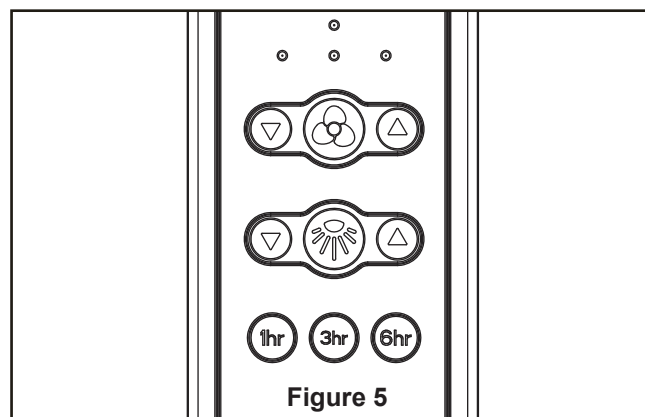

Figure 5
- ☐ 5. Assemble the light plate assembly to the switch housing assembly using the two key slots in the light plate assembly. Replace the third screw and secure all three screws. (Figure 5)
5. Remote functions: (Figure 5)